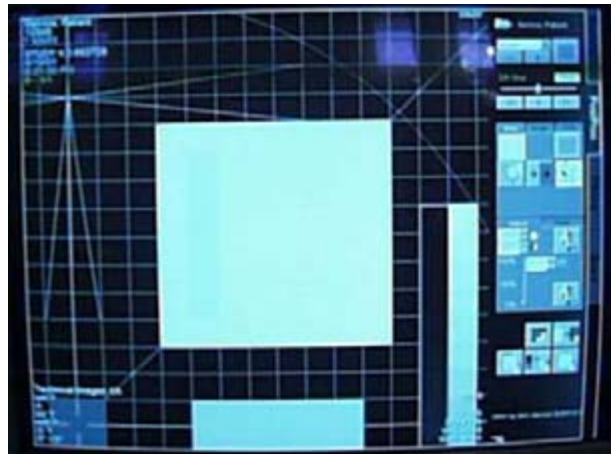

Fig. 4: Image1
- Select zoom, drag the white area to the center of the screen (Fig. 4 / p. 10).